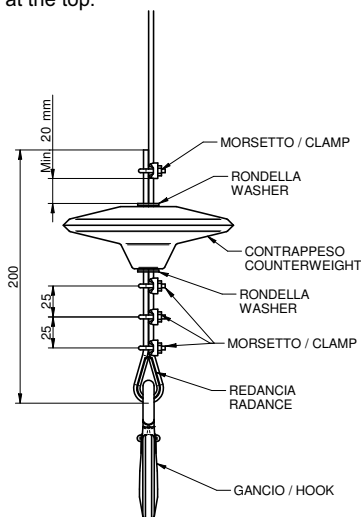
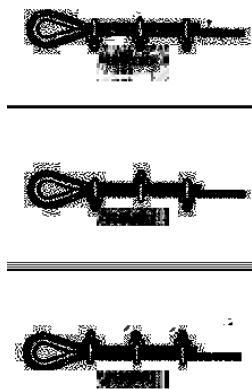

Fig. 4.7
Fig. 4.8
6.2) Fig.4.7 With three U-bolt clamps at the bottom of the counterweight installed as shown in Fig.4.8 (correct) below and one U-bolt clamp at the top.